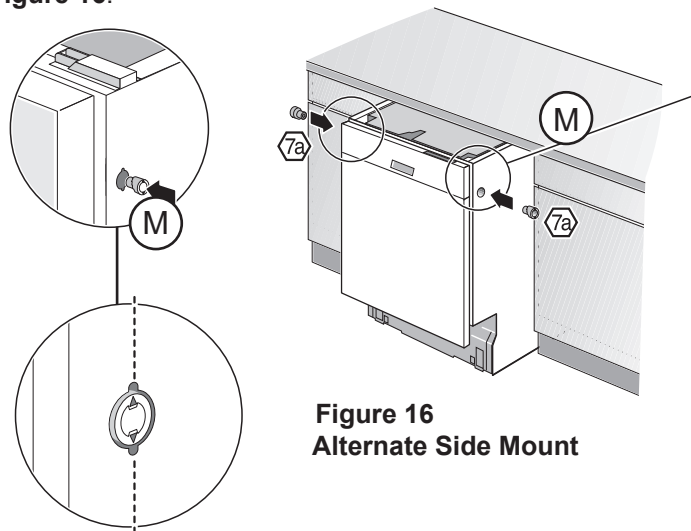

Figure 16
Alternate Side Mount for opening $23\frac{5}{8}$ " (600 mm). Insert a side mount force distributor (M) in each side as shown in **Figure 16**.